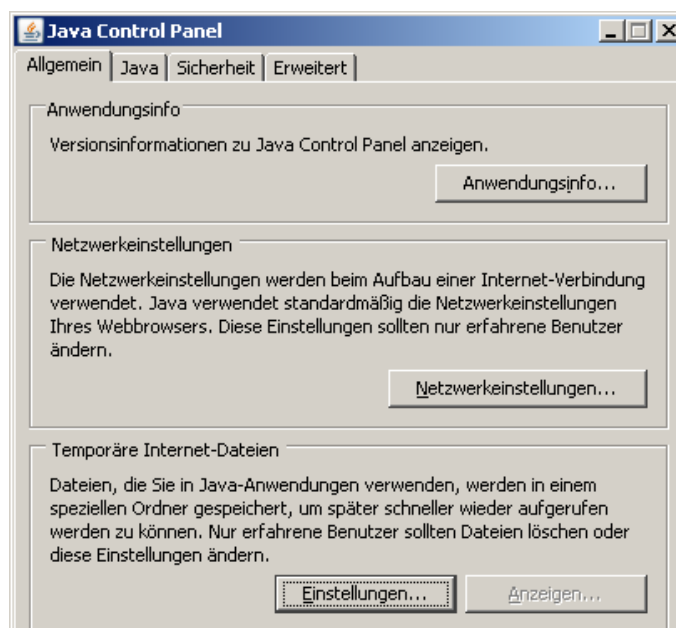

Figure 7: Java Control Panel – general information
- Click on the field **Temporary Internet Files and Settings** (Figure 7).